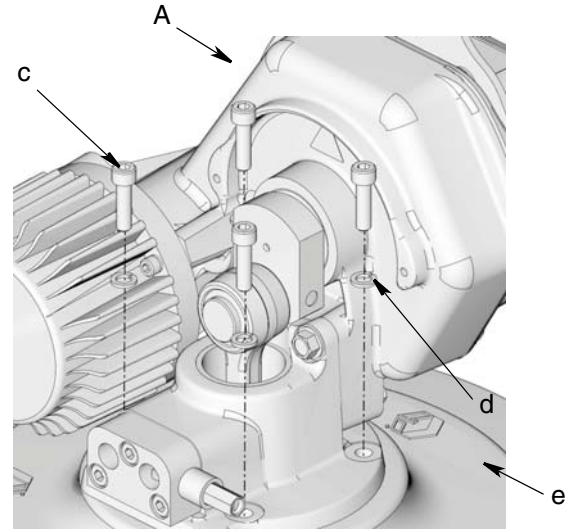

FIG. 4
4. Remove screws (c) and washers (d) holding Dyna-Star Pump (A) to cover (e) and remove pump from cover (FIG. 4). Save these parts to use for installation.